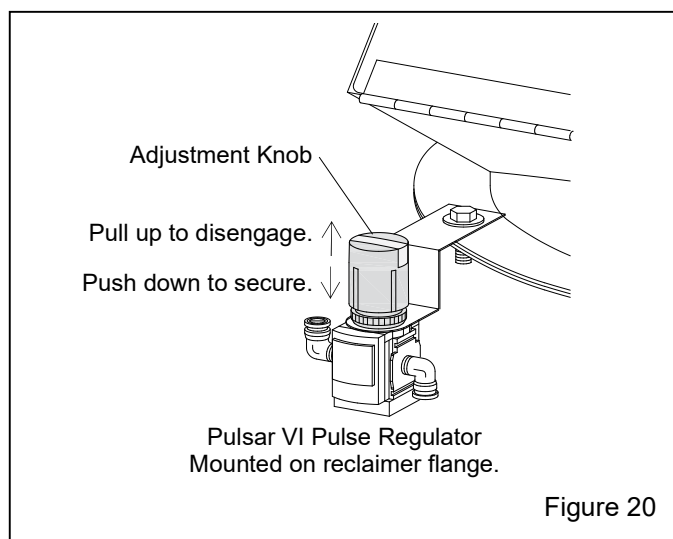

Figure 20
5.7 Dust-Collector Pulse Pressure – Figure 20
5.7.1 The pulse-pressure regulator is located on the reclaiming flange, as shown in Figure 20.
5.7.2 Begin pulsing at 60 psi. To adjust pressure, pull up on the knob; a short snap as the knob is pulled up disengages it, as shown in Figure 20. Turn the knob clockwise to increase pressure or counterclockwise to decrease pressure. Once operating pressure is set, push down on the knob to secure it, and maintain the setting.